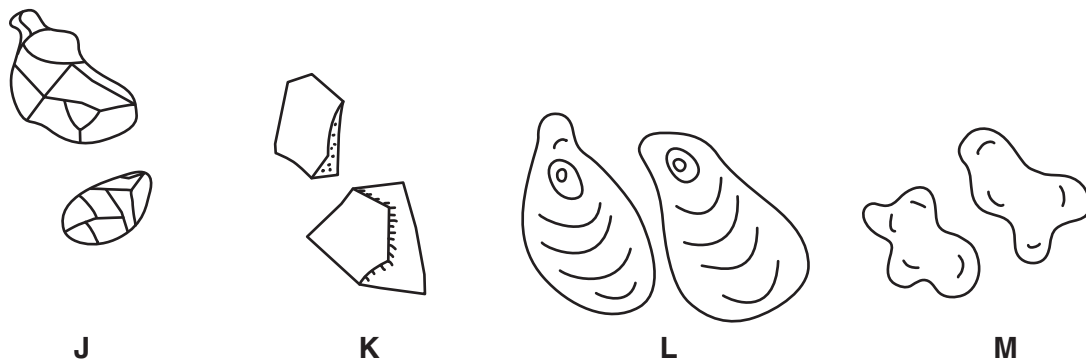

Fig. 2.1
Fig. 2.1 shows some different shapes of starch grains and patterns in the surface of the starch grains.
- (ii) Use Fig. 2.1 to suggest which of the starch grains, **J**, **K**, **L** or **M** matches some of the grains observed on the slide.